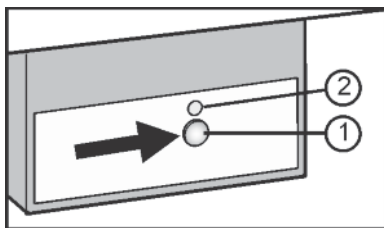

Fig. 11
- Press On/Off button Fig. 11 (1) so that the LED Fig. 11 (2) lights up.